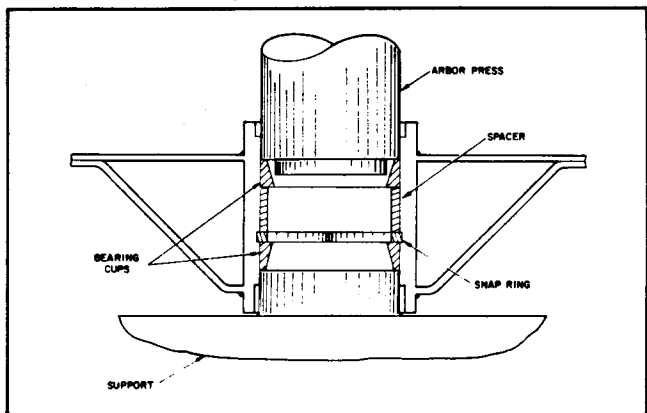

Figure 28
3. Thoroughly oil bearing cups. Use an arbor press to push bearing cups into top and bottom of spindle housing (Fig. 28). Top bearing cup must contact spacer that was installed in step 2, and bottom bearing cup must contact snap ring to be sure of correct assembly of parts. Make sure assembly is correct by supporting first cup and pressing the second cup against it (Fig. 28).